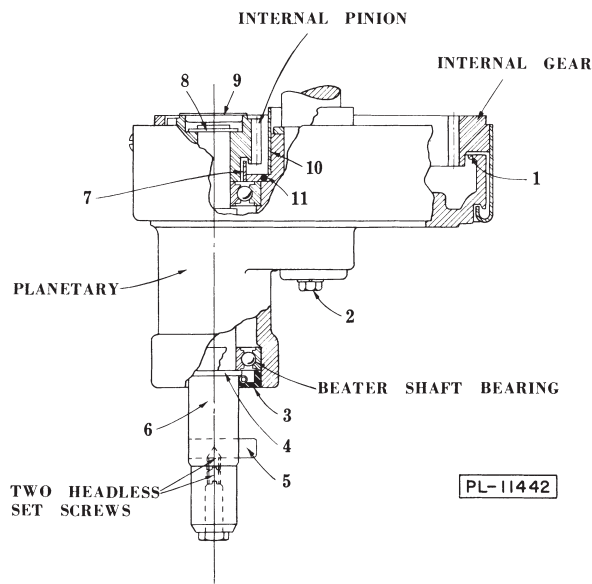

Fig. 5
Support the weight of the planetary while removing the retaining screw (2, Fig. 5). If the removal of the planetary proves difficult, use the two 3/8" tapped holes provided on opposite sides of the planetary shaft for anchoring a puller. The holes are plugged with nylon plugs.
If a pry is to be used between the planetary and the internal gear, always pry downward. The cast iron lip (1, Fig. 5) on top of the planetary is breakable. This lip serves as a trap for the oil and would have to be repaired if broken.
2. Take out the planetary oil seal (3, Fig. 5). This seal can be pried out by using a small screwdriver between the outside of the seal and the planetary casting.
3. Pry out the oil-retaining cap (9, Fig. 5) which is pressed into the top of the internal pinion. (Be sure to replace this cap when re-assembling).
4. Remove the retaining ring (8, Fig. 5) and the pinion, then drive the beater shaft down through the bearings.
If the lower bearing does not come out with the beater shaft (6, Fig. 5) it can be pulled down after the beater shaft is out. The upper bearing can be pulled out after removal of the planetary oil baffle (7, Fig. 5).
When re-assembling the oil baffle to the planetary, a little Permatex around the "O" ring (11, Fig. 5) will improve the seal. Be careful not to cut the "O" ring on the edge of the planetary or baffle.
The primary purpose of the seal (3, Fig. 5) is to keep moisture and ingredients from the bowl out of the lower bearing. It can be slipped down from the top of the shaft and over the small shoulder (4, Fig. 5) if care is taken. Grease the shoulder so that the seal will slide over it. If installing the seal from the bottom, you must remove the beater pin (5, Fig. 5), clean the shaft, and make sure that the lip of the seal is not cut or folded under. The lip must go up toward the bearing. Make sure that the spring is in place in the seal groove adjacent to the lip. If the lip of the seal is dry, the seal may squeal. A little lubrication worked under the lip will correct this.
The shield (10, Fig. 5) is held in place around the hub of the planetary by friction.
The planetary oil shield (10, Fig. 5) keeps oil from collecting on the hub and working down the planetary shaft.
The oil baffle (7, Fig. 5) keeps oil away from the beater shaft as it is thrown off the pinion teeth or sloshes around in the planetary.
The friction plug (9, Fig. 5) stops any oil leakage from above.